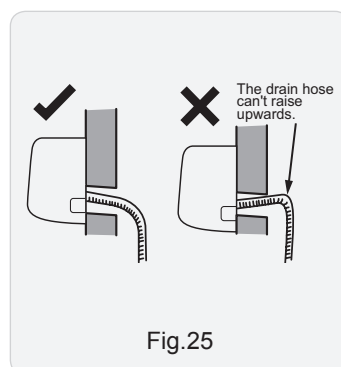

Fig.25
(1) The through-wall height of drain hose shouldnt be higher than the outlet pipe hole of indoor unit. (As show in Fig.25)